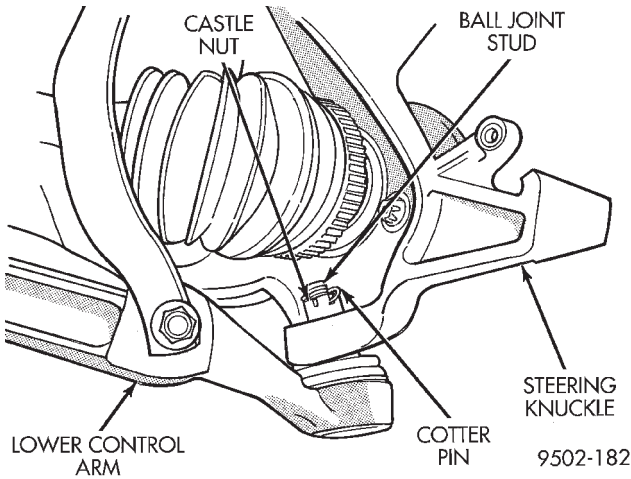

Fig. 10 Lower Ball Joint to Steering Knuckle Attachment
(12) Remove cotter pin and castle nut (Fig. 10) from stud of lower ball joint at the steering knuckle.